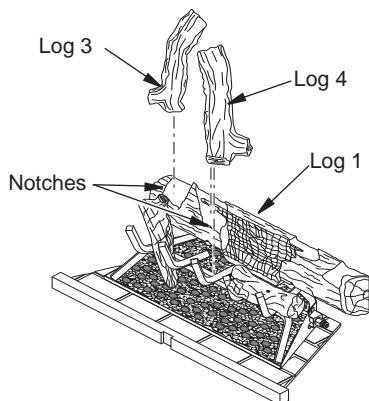
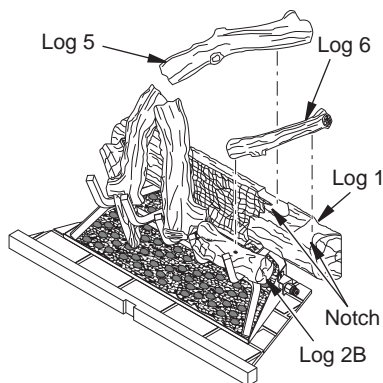
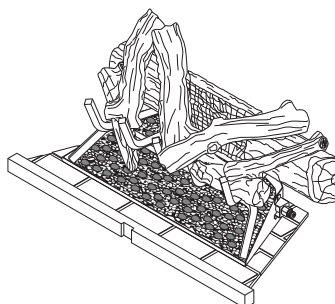

Figure 30 - Installing Logs 3 and 4
Figure 31 - Installing Logs 5 and 6
Figure 32 - Logs Installed for M42, M42P, VM42 and VM42P Models
3. Place log 3 into notch on top left of log 1, resting lower end on left two grate fingers (see Figure 30).
4. Place upper end of log 4 into notch on log 1 as shown in Figure 30. Rest lower end of log 4 on middle grate finger as shown in Figure 31.
5. Place upper end of log 5 into notch on top inner right of log 1 (see Figure 31). Rest lower end of log 5 on middle grate finger as shown in Figure 32.
6. Place log 6 into notch on top right of log 1 (see Figure 31). Rest lower end of log 6 on top of log 2B (see Figure 32).